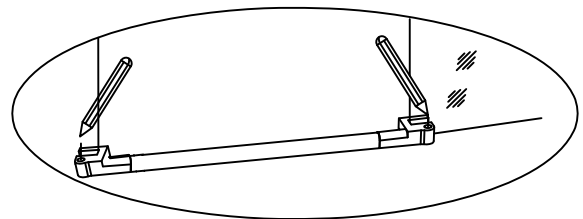

Fig.30
Position the Door Threshold bar (11) to floor by aligning in door opening with fixed glass. Mark the Threshold End Cap (12) mounting hole locations. See Fig.30 for details.